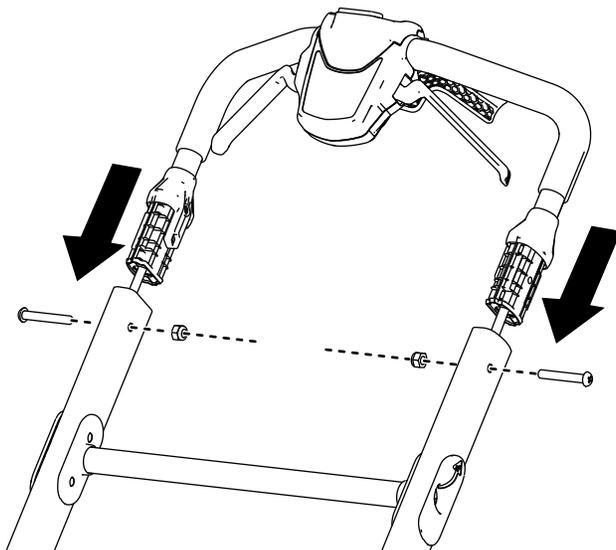

Figure 4
1. Install the upper handle assembly to the lower handle and secure it using 2 bolts and 2 locknuts as shown in Figure 4.